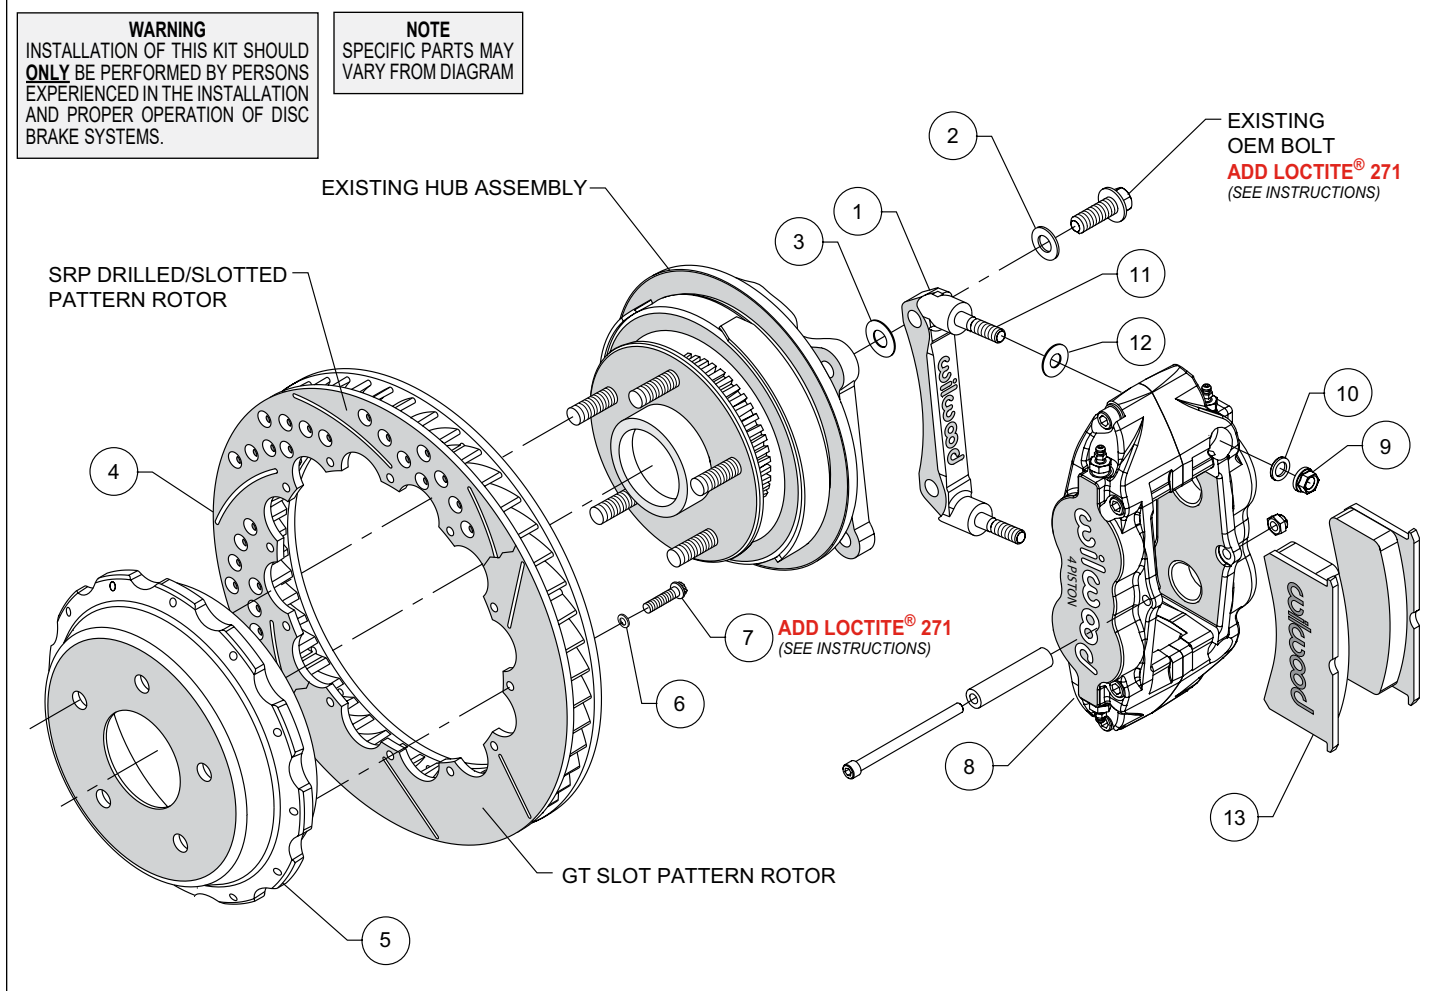
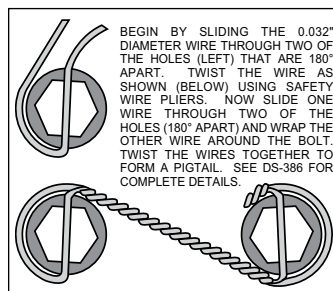

Figure 1. Typical Installation Configuration
Figure 4. Safety Wire Diagram
- The caliper mount bracket assembly (1) should be installed first with clean, dry threads on the existing OEM mounting bolts. Install the bracket from the rear side of the hub by sliding stock bolt through flat washer (2), through the caliper mounting bracket (1) and shim washer (3) through the OEM caliper mounting bracket ears as shown in Figure 1 and Photo 1. The bracket must tighten squarely against the inboard side of the caliper mount bosses on the upright. Inspect for interference from casting irregularities, machining ridges, burrs, etc. Use one thin shim (3) between the bracket and upright during initial trial fitting. Later, after the caliper, pad, and rotor alignment has been checked, and any necessary shims have been put in place, the mounting bolt threads should be coated with red *Loctite*® 271 and torqued to 75 ft-lbs.
- Orient the rotor (4) and hat (5) as shown in Figure 1 and Photo 2. Attach the rotor to the hat with bolts (7) and washers (6). Apply red *Loctite*® 271 to the bolt threads and torque to 140 **in-lb** using a criss-cross pattern. For an added measure of security, the bolts may be safety wired using standard 0.032 inch diameter stainless steel safety wire as shown in Figure 4. Please refer to Wilwood's data sheet DS-386 (available at www.wilwood.com/Pdf/DataSheets/ds386.pdf) for complete safety wire installation instructions.
- Install one shim (12) over each stud (11) on the radial mount bracket (1), Photo 4. Slide the caliper (8) in place over the studs and rotor and install the washer (10) and lock nut (9) to hold the caliper in place, Photo 5. The caliper bleed screws should be pointing up. Snug the lock nuts (9) and check that the rotor (4) is centered in the caliper (8). Add or subtract .033" shims (3) as necessary between the caliper mount bracket (1) and the caliper mount bosses on the upright assembly to center the caliper.